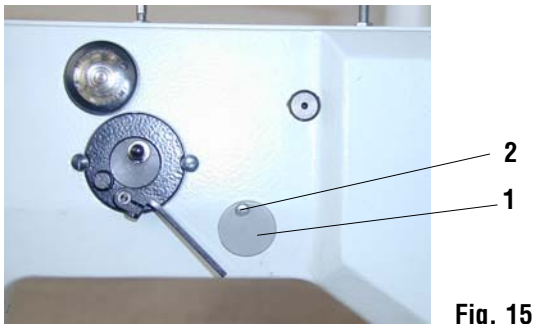

Fig. 15
16. Setting of the needle punch into the middle of the needle groove in the throat plate in transversal direction (Fig. 15, 16)